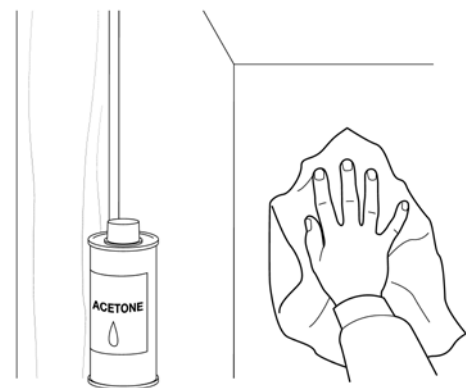

figure 11
7. Using 100% acetone and cloth, wipe the back (unfinished) side of the panels to remove any dust or debris. (see figure 11)